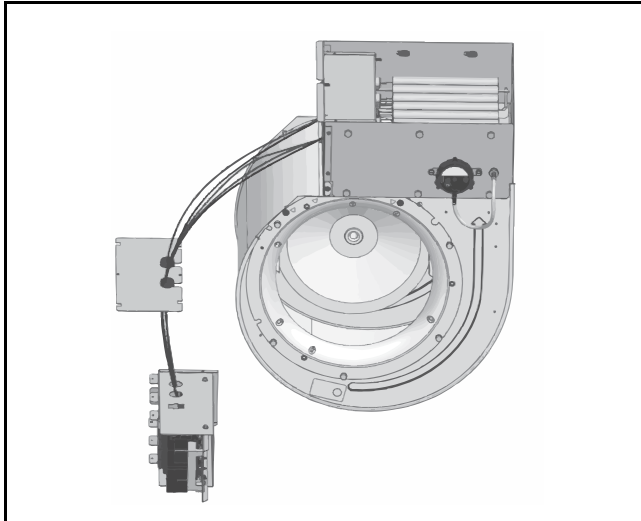

Fig. 25 Routing Red/Black Wires through the Heater Element Cover Grommets
7. Route the red/black (conduit protected) elements wires originating from the e-heat control box through the grommets in the electric heater element cover. (→Refer to Fig. 25.)